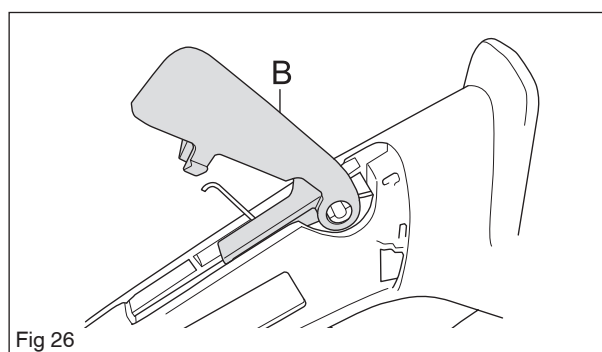

Fig 26
3. Fit the throttle control lock (B) by sliding it on the shaft in the handle. See figure 26. Make sure the spring is positioned inside the throttle control lock when you press it down so that the barbs are hooked in place.